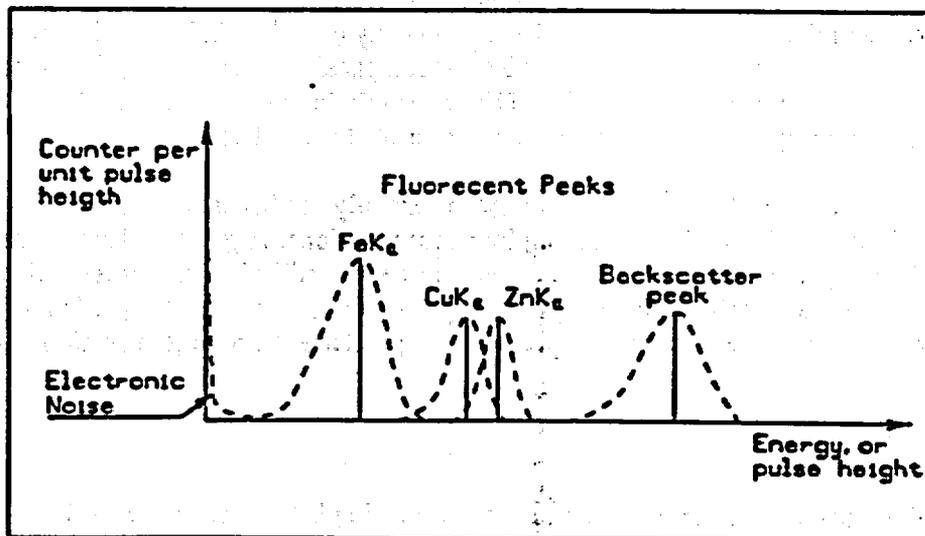

Figure 2.3 The detected spectrum.
Figure 2.3 shows schematically an X-ray spectrum corresponding to the X-ray lines of figure 2.1, as recorded by the X-MET 880. The actual spectrum is the sum of the overlapping pulse height distributions of Figure 2.1. Element channels or "windows" are regions (usually of width equal to one FWHM and centered on the peak maximum) selected from a peak either by the program or by the operator during instrument calibration. Notice that the microchannel 255 collects all pulses with an energy above the selected energy range. Thus most counts of the backscatter peak are usually found in this single microchannel. Notice also that to avoid the effects of electronic noise all channels below 35 (approx.) are zeroed out by the electronic. The detector high voltage is normally adjusted so that the practical measurement range is between channels 50 and 200. The energy scale is linear.
Spectral overlap occurs when two peaks are not completely resolved (as in figure 2.3). The degree of overlap depends on the energy separation of the peaks compared with the spectrometer resolution at that energy. The superior resolution of the Outokumpu Instruments detectors enables  $K_{\alpha}$  peaks from elements of adjacent atomic number to be accurately measured even though their energy separation would be small.
The deconvoluted pulse counts in each element channel (=window) divided by the measurement time, are called the net intensities (I). (The gross counts in each element channel, before deconvolution, are shown in figure 2.3 as  $M_1$  through  $M_n$ ).